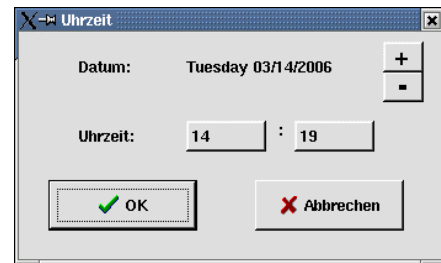

Fig. 24
- Press the button **Select Time** and another window is shown (fig. 24). All settings concerning the respective weekday, date, hour and minute can be made.